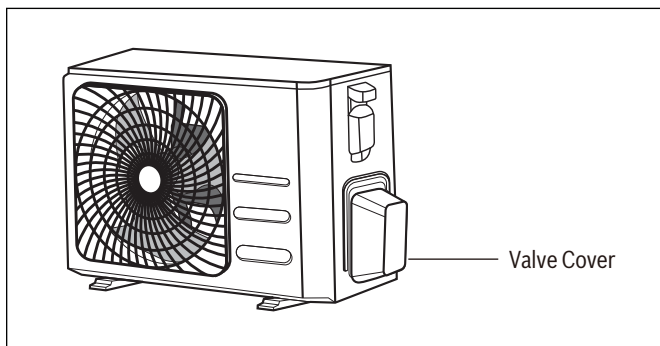

Figure 34
1. Unscrew and remove the cover on the side of the outdoor unit. See Figure 34.